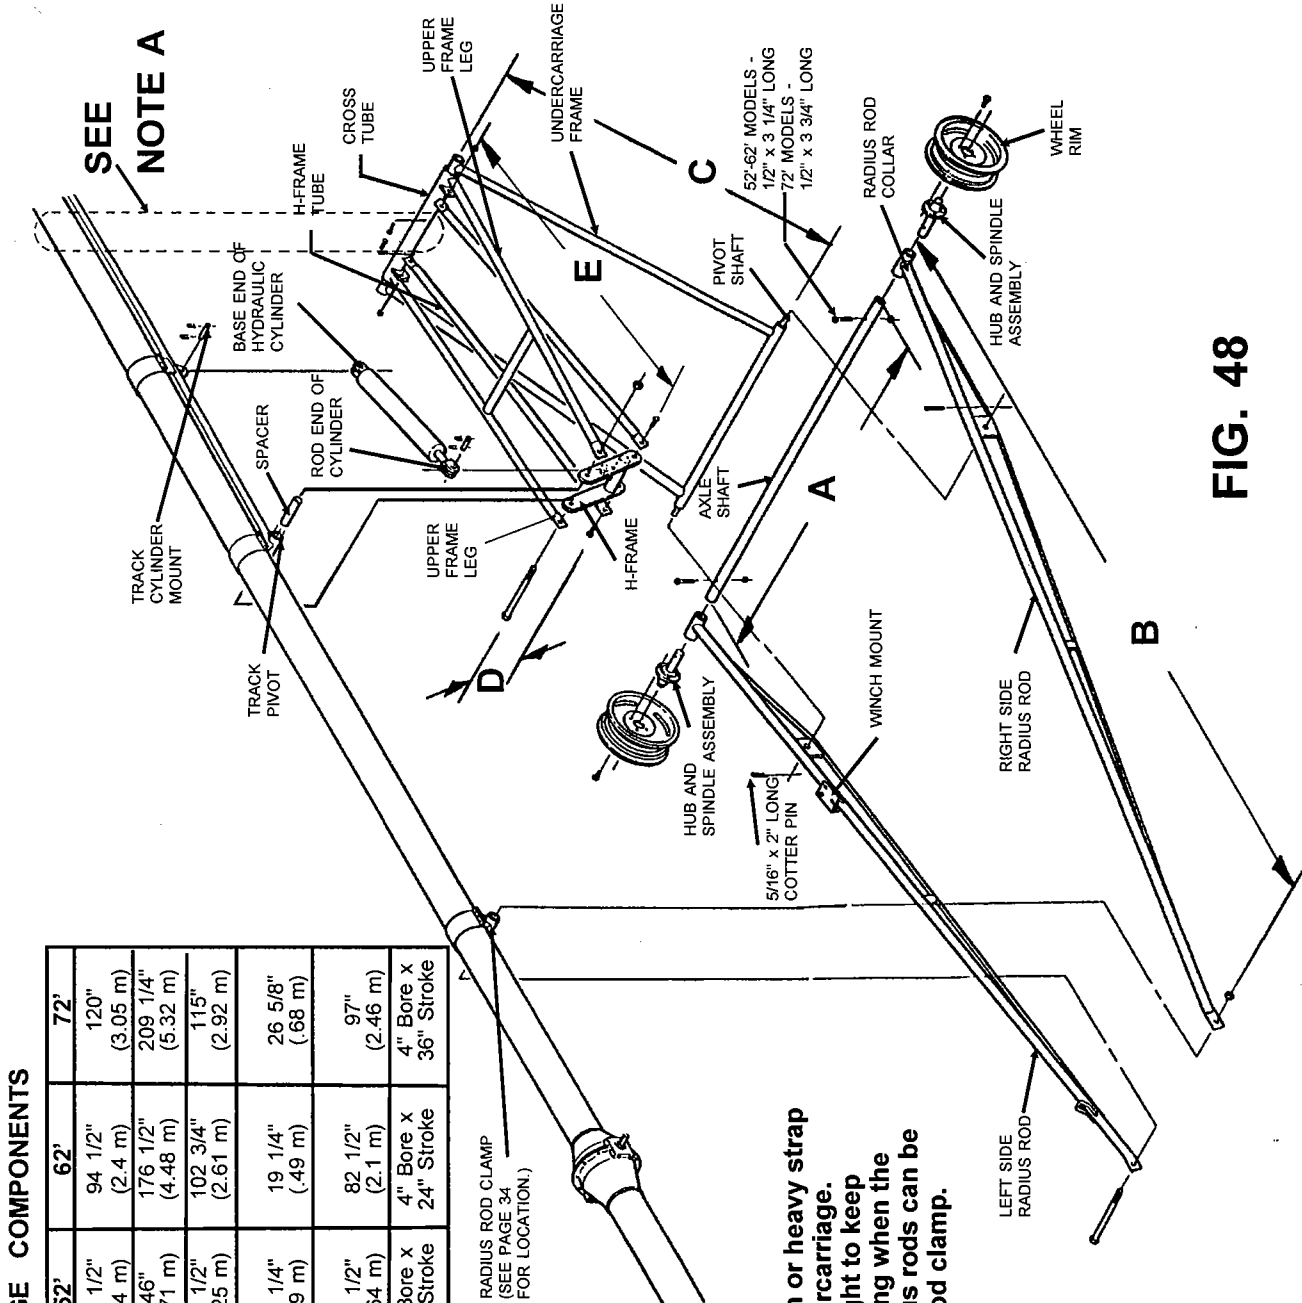

FIG. 48
- Step 19. Lay out the radius rods (with trussing and square plate). The flattened ends of the radius rods must be toward the intake end of the auger. When standing at the intake end and facing the discharge end of the auger, the radius rod with the winch mount must be on the left side. See Fig. 48 on page 38. Lay the undercarriage frame between the radius rods.
- Step 28. Wrap a chain or heavy duty strap around the auger tube and undercarriage frame. Chain or strap must be tight to keep the undercarriage from opening when the tube is raised to connect the radius rods to radius rod clamp. See Fig. 48 on page 38.